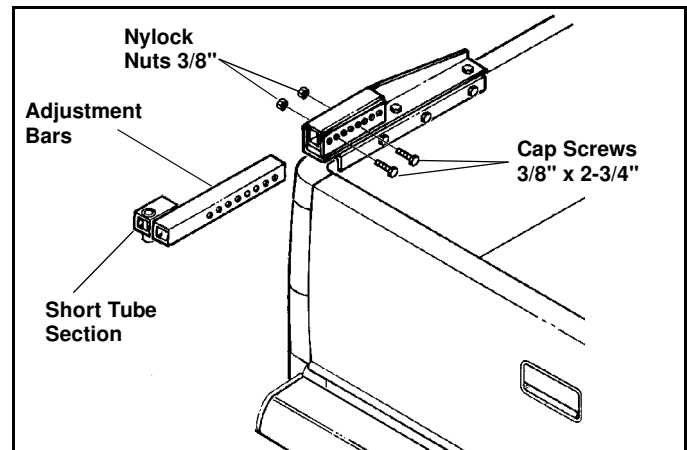

Figure 1-3
8. Locate two (2) Adjustment Bars (#96102875) and place them in Mount Brackets oriented so the short tube section is towards the outside of each Bar. Align holes in Adjustment bars with holes in Mount Bracket. Loosely secure each Bar with two (2) 3/8" x 2-3/4" Cap Screws (#98100027) and Nylock Nuts provided. (See Figure 1-3)